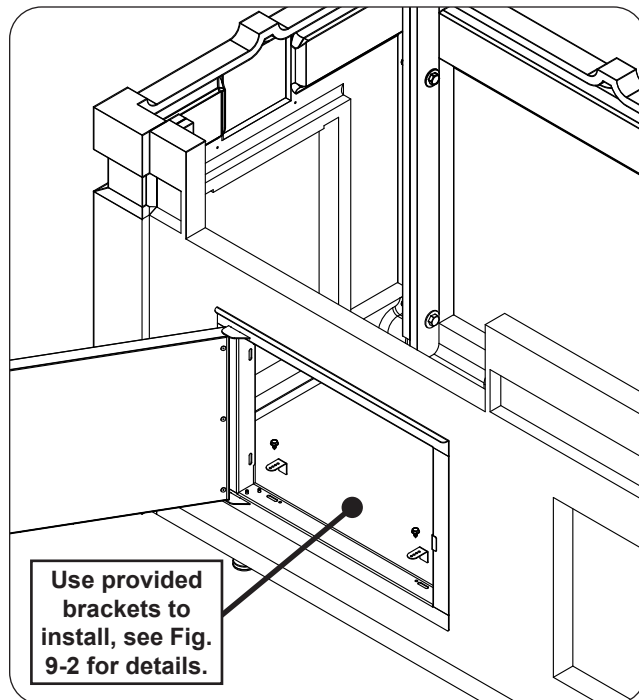
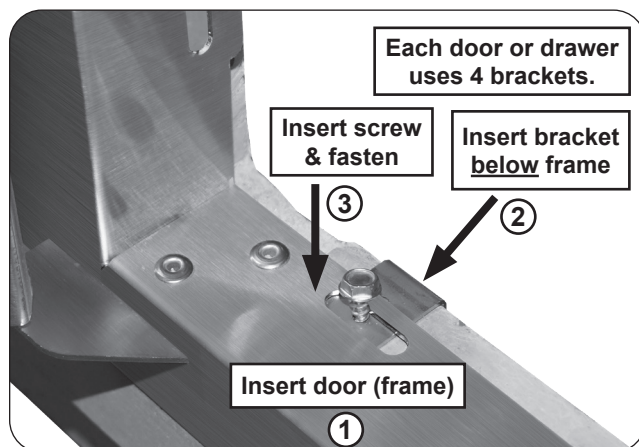

Fig. 9-1 Door / drawer install locations
Fig. 9-2 Door / drawer install detail
1. Insert your unit completely into the appropriate opening. Ensure it is flush against the exterior flush against the exterior wall (see Fig. 9-1 and Fig. 9-2, step 1).
2. The unit will have 2 oblong cutouts (or round holes) on both the top and bottom of its frame. Reach from within the island and insert a bracket where a cutout exists, **below the frame**. See Fig. 9-2, step 2.
3. While squeezing the rear of the bracket and the front of the door frame **firmly** against the concrete wall, insert a hex screw and tighten with the power drill and 5/16" hex driver (see Fig. 9-2, step 3). DO NOT OVERTIGHTEN.